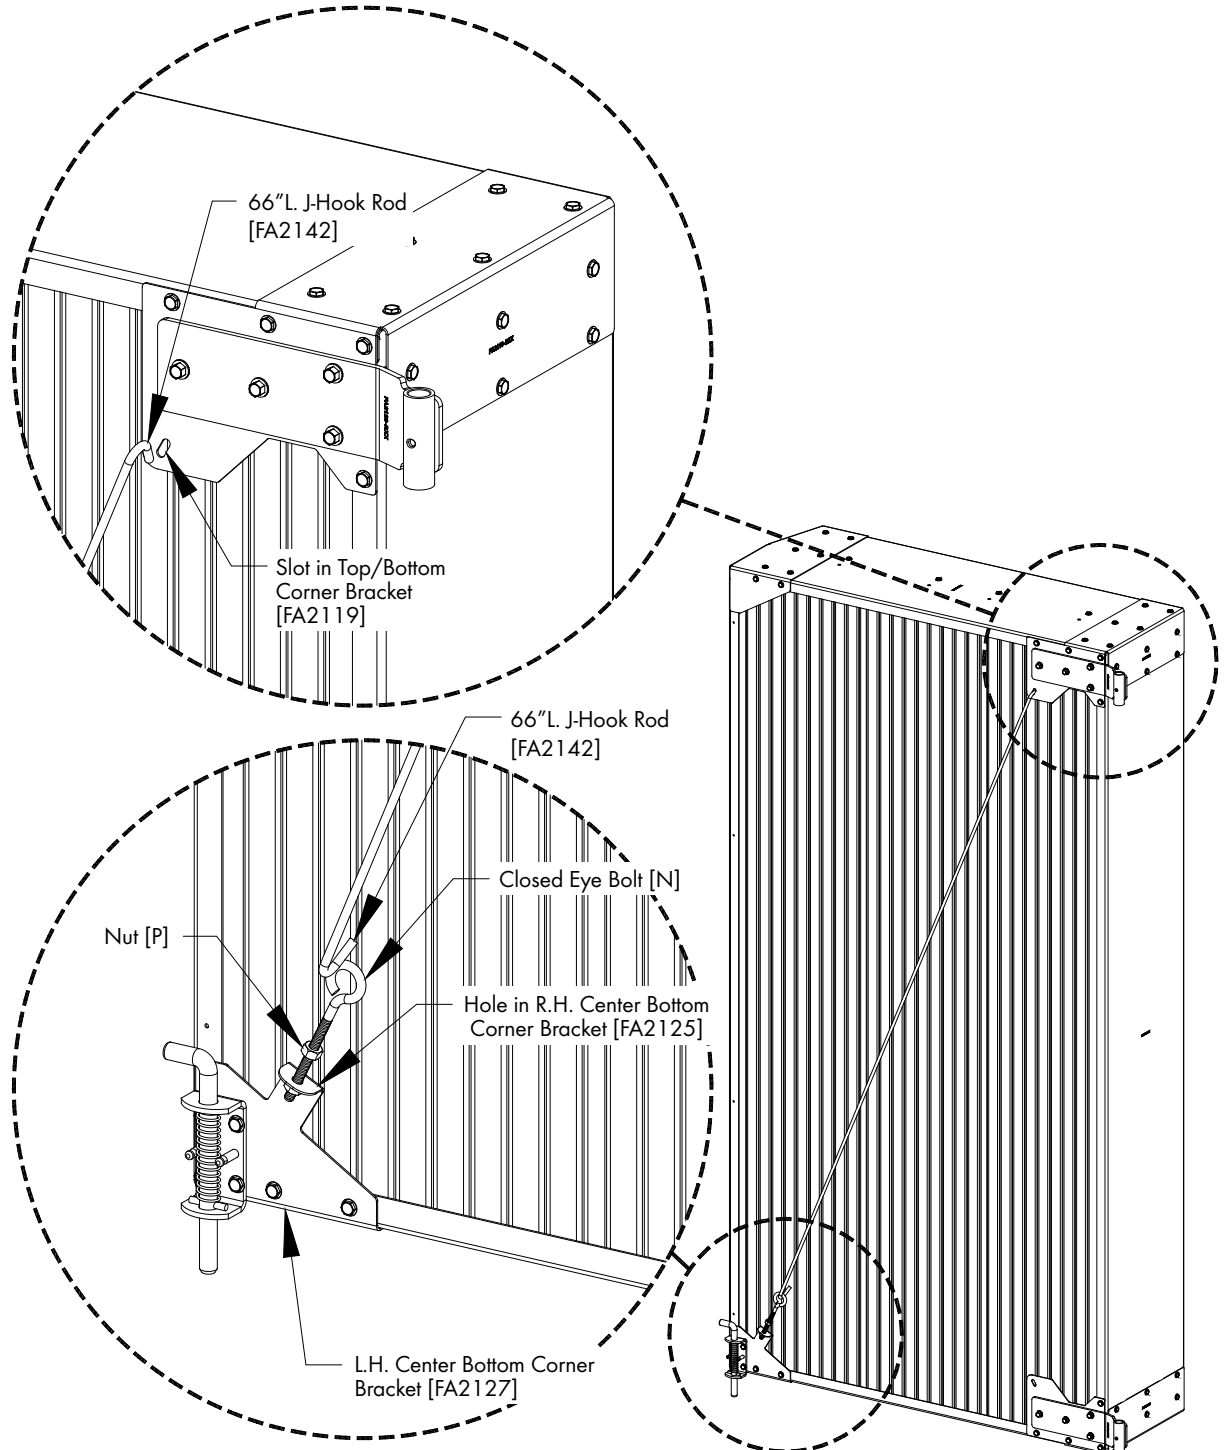

Figure 21
Thread (1) Hex Nut [P] onto Closed Eye Bolt [N] most of the way up the threads, then insert the threaded end of the Eye Bolt through the hole in the Center Bottom Corner Bracket and thread 2nd Hex Nut [P] on Eye Bolt 1". Hook the end of the 66"L. J-Hook Rod through the slot in Top Corner Bracket and hook the other end of the Rod on the Closed Eye Bolt and adjust the bottom Hex Nut until the Rod is taut. Repeat for the opposite side of the door. *See Figure 21.* Adjust both lower Hex Nuts so door is square, Then thread the upper nut down to the Bottom Corner Bracket.